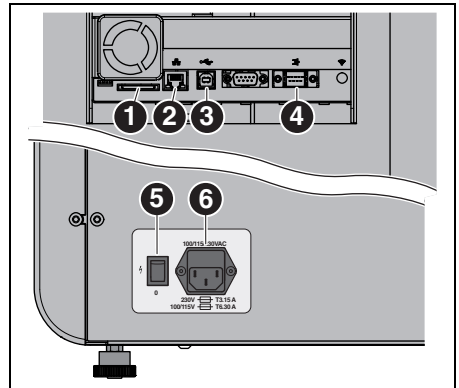
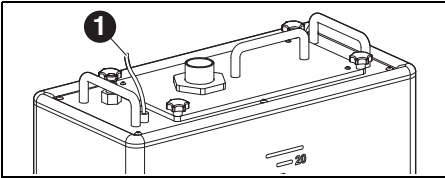

Fig. 7 Interfaces on the rear side of the milling machine
Fig. 8 Connections of the supply unit
- ▷ Connect the control cable to the control interface for the supply unit on the rear side of the milling machine ([4] in Fig. 7) and to the supply unit ([1] in Fig. 8).
- ▷ Connect a USB cable to the USB interface ([3] in Fig. 7) of the milling machine and to a free USB port of the PC.
- ▷ Connect the Ethernet interface ([2] in Fig. 7) of the milling machine with the PC or with the network using a network cable.